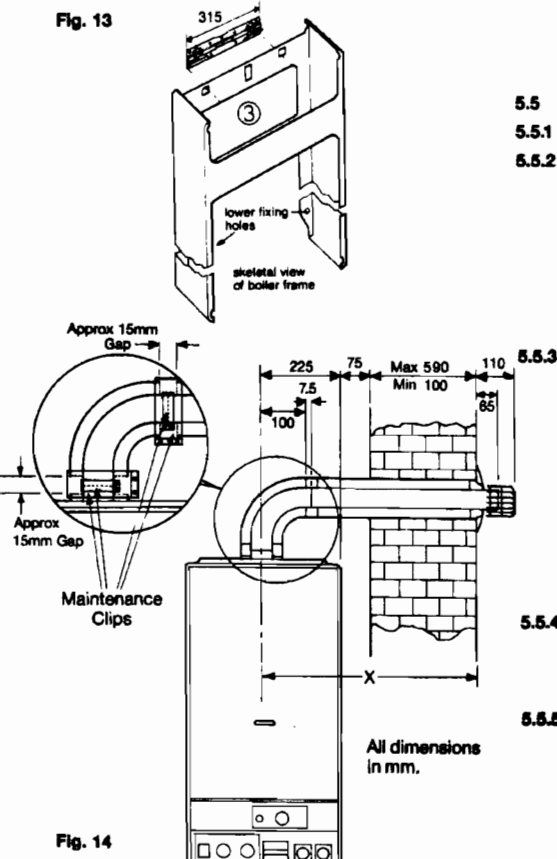

Fig. 14
5.5.1 Refer to figures 14 - 18
5.5.3 Hang the boiler on the bracket. Adjust the boiler sideways to its correct position. Measure carefully from the actual face of the outside wall to the centre of the flue bend. (Dimension X on Figs 14 & 15). Locate the small maintenance clip onto the flue elbow (fig 14) and assemble onto the flue outlet on the top of the boiler. Twist the flue bend to the outlet direction required, and tighten the maintenance clip to secure the flue bend in place. Carefully level across to check that the hole through the wall is at the same level as the flue bend.
5.5.27 Referring to fig 14 assemble a small maintenance clip on the outlet of the boiler flue bend. Push the inner flue tube into clip and tighten clip screws.
5.5.29 Referring to fig 14 fit the large maintenance clip into position and tighten clip screws.
5.5.39 Referring to fig 14 fit the large maintenance clip into position and secure clip screws.
- 5.5.16** Referring to fig 14 fit the large maintenance clips into position and secure the clip screws.